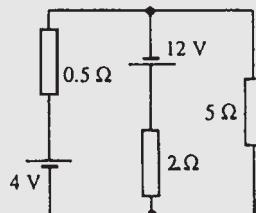

Figure 13.58
**Problem 15.** Determine the current in the  $5\Omega$  resistance of the network shown in Fig. 13.58 using Norton's theorem. Hence find the currents flowing in the other two branches.